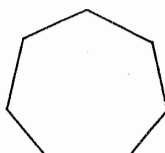

Fig. 49
42. A *Heptagon* has seven sides. Fig. 49.